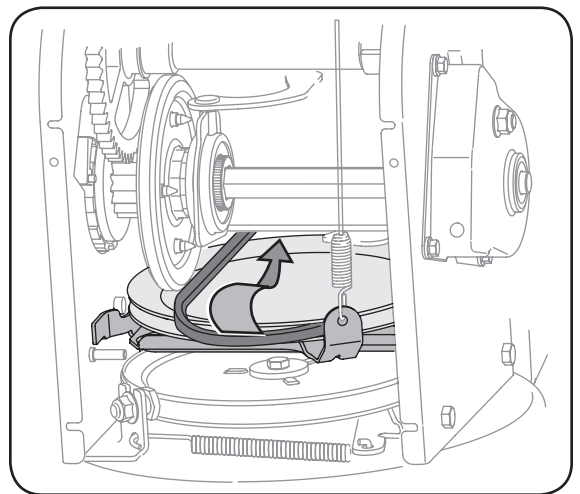

Figure 6-10
6. Slip the drive belt off the pulley and between friction wheel and friction wheel disc. See Figure 6-10.